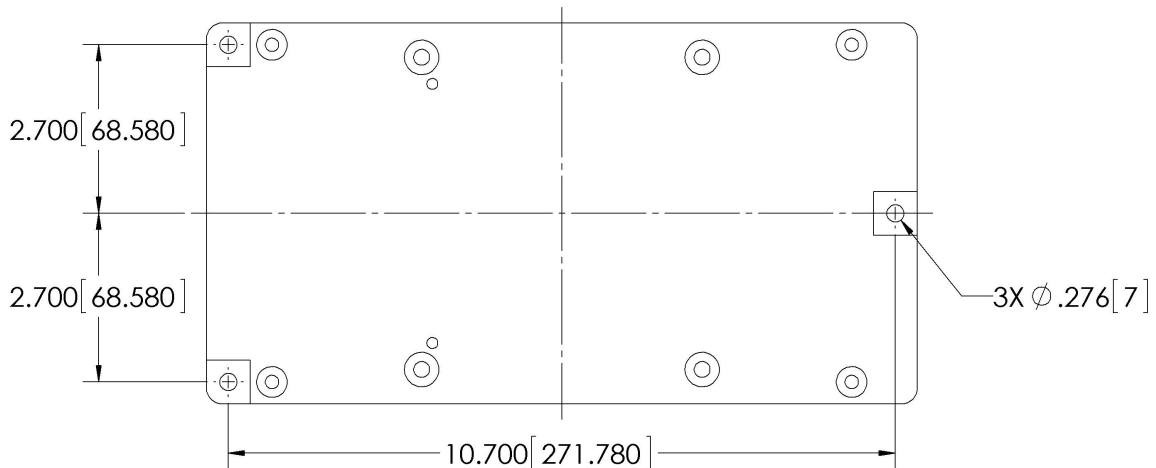

Figure 3. AFD1000-3 Table Top Mounting Plate
The AFD1000-3 is designed for mounting on a stationary fixture. It has (3) three $\square 0.28"$ ($\square 7.0$ mm) mounting holes spaced as shown in Figure 3. The AFD1000-3 Table Top Mounting Bracket should not be modified without first consulting PushCorp, Inc.